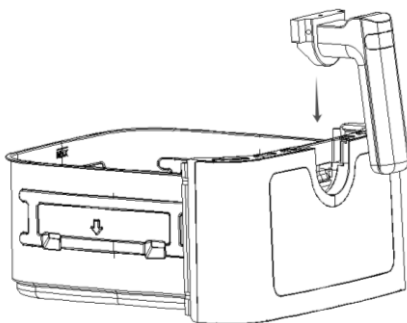
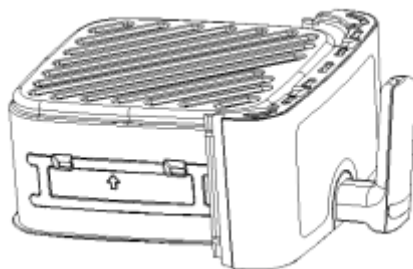

Figure 1
Figure 2
5. Put the handle into the pot assembly in the direction shown in Figure 1 until you hear a click indicating that the handle is fixed to the pot assembly . Turn the handle up and down and shake the pot shown in Figure 2 to confirm whether it is fixed.